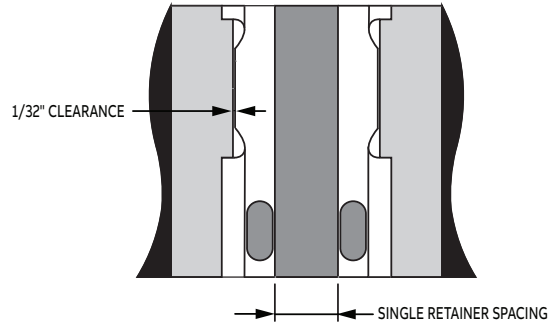

Figure 3 - Pad clearance
3. Insert a pad into the retainer slots. Clamp down the pad while ensuring a 1/32" clearance referencing Figure 3. Place a new retainer on the opposite side from the first retainer. Secure the new retainer by plug welding through a minimum of 3 holes.
5. Place the two single retainers back-to-back in the gap between the first and last pads referencing Figure 3. Repeat Step 3. The space between the single retainers will vary slightly according to the actual pulley diameter. However, the gap should not exceed the limits found in the pre-installation instructions. Otherwise, non-standard installation is required.